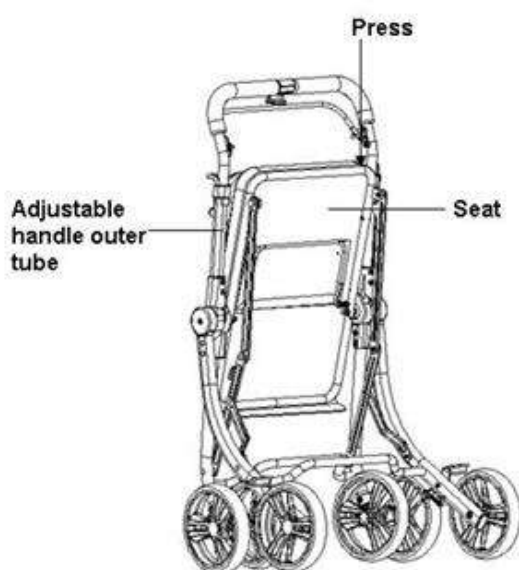

Figure 1
- With one hand, hold the seat plate and push it downward, while the other hand pulls the adjustable handle tube outward, as shown in Figure 1, until the cart is fully opened. When you hear a "click", it indicates that the cart is properly unfolded.